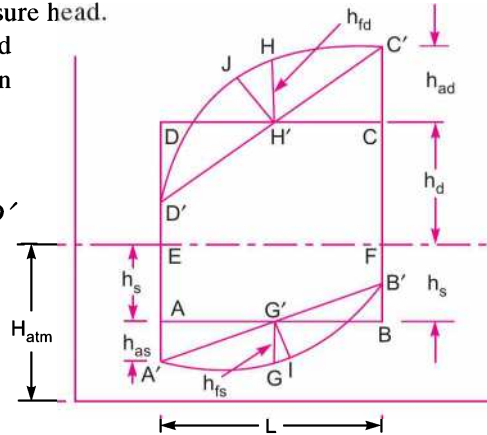

Fig. 20.8 Effect of acceleration and friction on indicator diagram.
**20.8.4 Effect of Acceleration and Friction in Suction and Delivery Pipes on Indicator Diagram.** Fig. 20.8 shows the combined effect of acceleration and friction in suction and delivery pipes. The pressure head in the cylinder during suction and delivery strokes will change as given below :
Thus, the indicator diagram with acceleration and friction in suction and delivery pipes will become as shown in Fig. 20.8.
(Refer to Fig. 20.8). At the beginning of suction stroke,  $\theta = 0^\circ$  and pressure head
(i) **Pressure head in the cylinder at the beginning of suction and delivery strokes (Fig. 20.8).** At the beginning of suction and delivery strokes,  $\theta = 0^\circ$ .